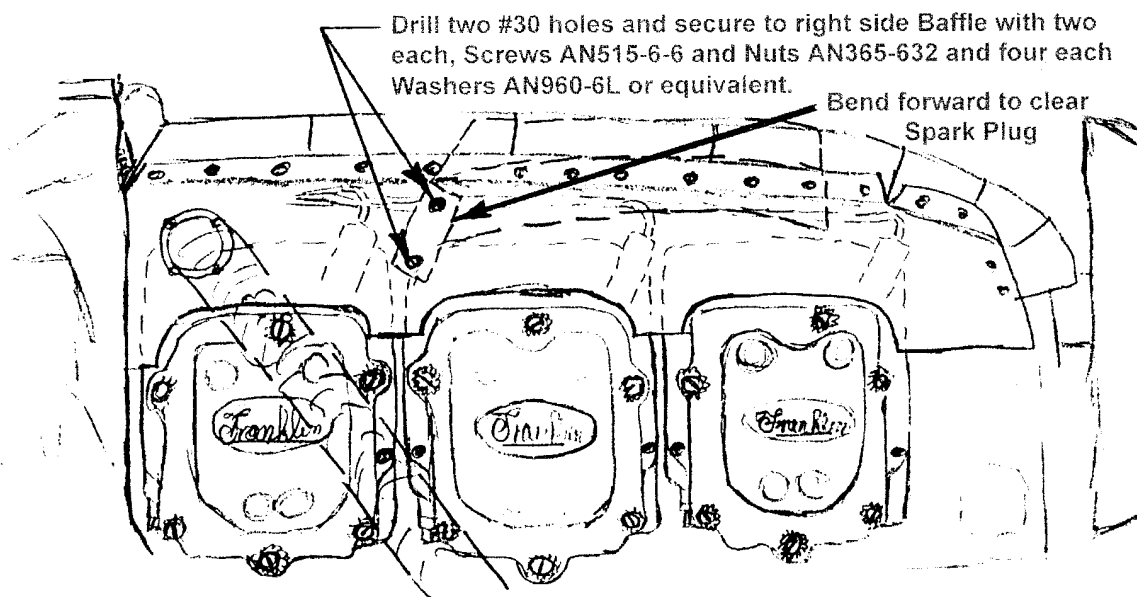

Figure 2. View from Right Side
8. Form the Baffle to fit and attach it to the Right Side Baffle by drilling two #30 holes and securing with two each, Screws, p/n AN515-6-6, Nuts, p/n AN365-632, and four Washers, p/n AN960-6L, or equivalent as shown in figure 2.